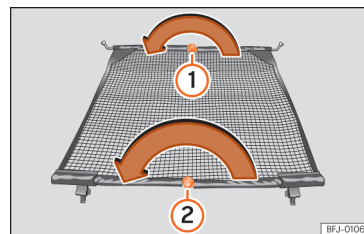

Fig. 132 Folding in the net partition.
- Press on the release button »» Fig. 132 ① and bend the cross rod in the direction of the arrow with the button pressed.
- Press on the release button »» Fig. 132 ② and bend the cross rod in the direction of the arrow with the button pressed.